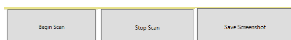

Fig. 10- 'Begin Scan' 'Stop Scan' and 'Save' Buttons
⑥ **Begin Scan, Stop Scan and Save:** To commence a live scan, select the 'Begin Scan' button. Upon selection an A-Scan trace will appear on the main window. To stop scan, click on the correspondent icon as well as for save a screenshot (Fig. 10)